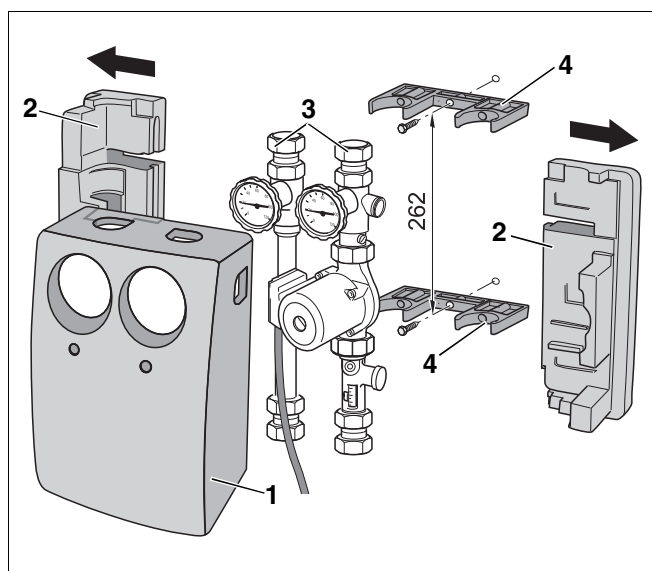

Fig. 6 Remove thermal insulation from the front
You need to open the solar pump station before you can install the wall bracket (Fig. 6, **Item 4**).
- Remove the thermal insulation from the front (Fig. 6, **Item 1**).
- Remove both the thermal insulation shells (Fig. 6, **Item 2**) from the left and right at the rear.
- Unclip the top and bottom of the two pump legs on the flow and return (Fig. 6, **Item 3**) from the wall bracket (Fig. 6, **Item 4**).
- Drill an 8 mm hole for each wall bracket (Fig. 6, **Item 4**) at a distance of 262 mm from each other and screw the wall bracket on.
- Click the two pump legs on the flow and return (Fig. 6, **Item 3**) back into place in the wall bracket.
- Push the two thermal insulation shells (Fig. 6, **Item 2**) on the left and right back in.